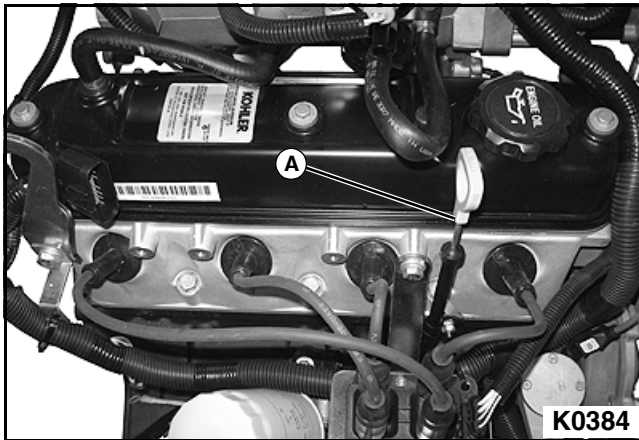

Figure 5-11
2. Pull out the oil dipstick (A). See Figure 5-11.